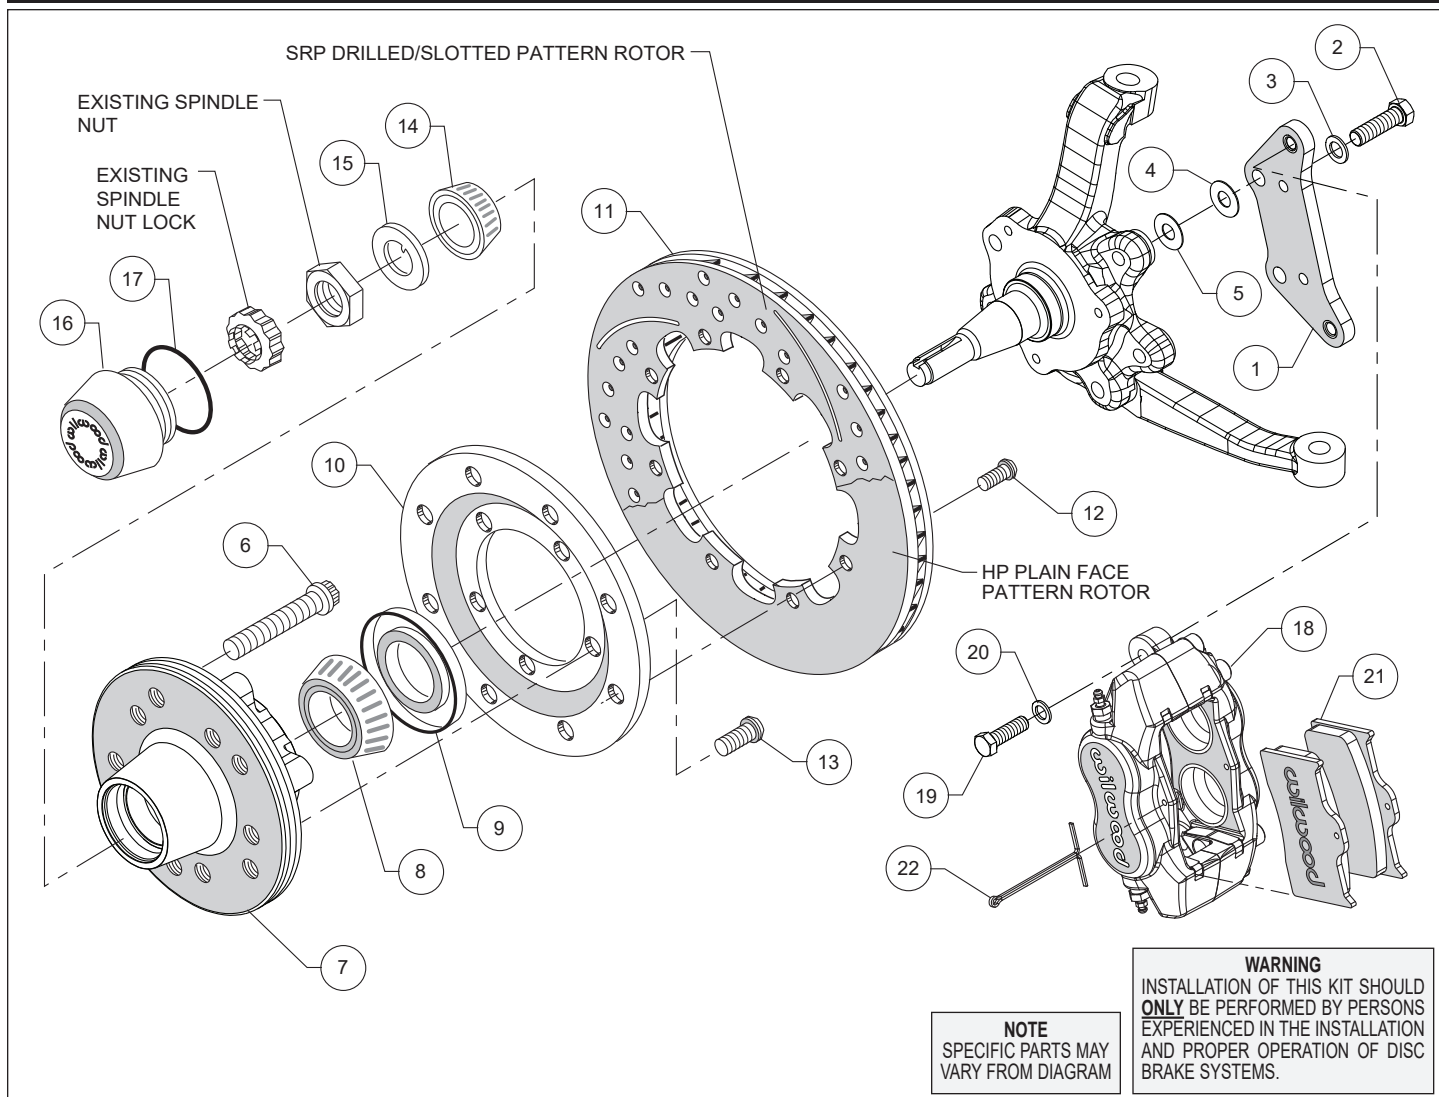

Figure 1. Typical Installation Configuration
**Assembly Instructions** (numbers in parenthesis refer to the parts list, on the preceding page and Figure 1): **CAUTION:** All mounting bolts must fully engage clinch nuts. Be sure to check that all bolts are either flush or protruding through flanged side of clinch nut after shimming.
- NOTE:** Please reference the caution statement at the beginning of the assembly instructions. Mount the caliper (18) onto the caliper mounting bracket (1) using bolts (19) and washers (20), as shown in Figure 1 and Photo 1. Temporarily tighten the mounting bolts. Ensure that the flanged heads of the clinch nuts in the bracket are facing away from the caliper, Figure 1. **NOTE:** The end of each bolt must be flush with or slightly protruding from the head of the clinch nut. Remove bolts one at a time, apply red *Loctite®* 271 to threads and torque to 40 ft-lbs. The bracket/caliper assembly will be installed on the spindle later.
- Orient the rotor (11) and the rotor adapter (10) as shown in Figure 1 and Photo 4. Attach the rotor to the adapter using bolts (12). Using an alternating sequence, apply red *Loctite®* 271 to the threads, and torque to 25 ft-lb.
- Mount the adapter/rotor assembly (10 and 11) to the hub (7) using bolts (13), as shown in Figure 1 and Photo 5. Using an alternating sequence, apply red *Loctite*® 271 to the threads, and torque to 45 ft-lb.
- The caliper/bracket assembly (18 and 1) should initially be installed with clean, dry threads on the mounting bolts. Orient the bracket as shown in Figure 1 and install onto the inboard side of the spindle using bolts (2) and washers (3). Initially place one .030 thick shim (4) on each bolt between the bracket and spindle, Photo 8. Temporarily tighten the mounting bolts and view the rotor (11) through the top opening of the caliper. The rotor should be centered in the caliper, Photo 9. If not, adjust by adding or subtracting shims (4 and/or 5) between the bracket and the spindle. Always use the same amount of shims on each of the two mounting bolts. Once the caliper alignment is correct, remove the bracket mounting bolts (2) one at a time, apply red *Loctite*® 271 to bolt threads, and torque to 60 ft-lb.